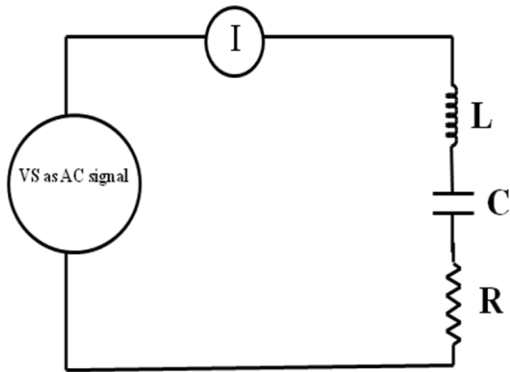
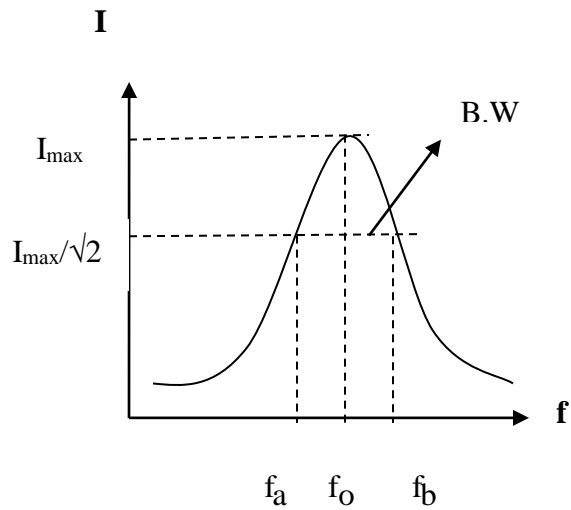

Fig.1: series resonance circuit
Fig.2. : Series resonance curve
The circuit is connected as shown in the fig.1. The output voltage of the oscillator is set to some suitable value and kept it constant throughout the experiment. The frequency f is increased in suitable steps (100 Hz- 2 kHz, in steps of 100 Hz and 2 kHz - 8 kHz in steps of 1 kHz) and the corresponding current is noted. The resonance frequency for a maximum current must be determined with maximum accuracy. A graph of I vs f is plotted as shown in fig.2. The resonance frequency is noted from the graph. The inductance value of the coil is determined using Eq. (1). The quality factor Q of the circuit is evaluated using Eq. (2)